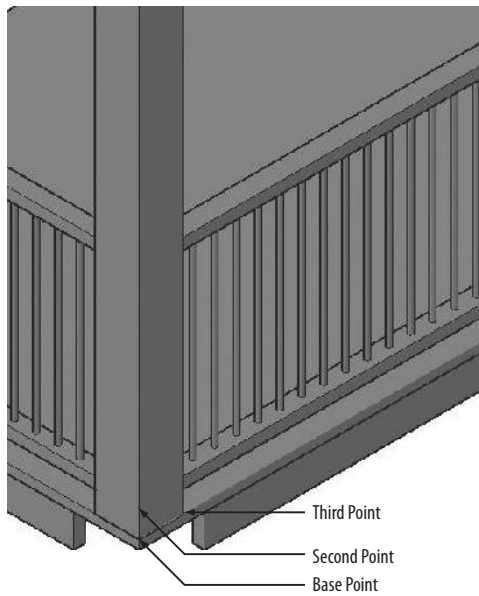

FIGURE 16.74: Defining the destination plane within the 3D model
12. Without exiting the 3DALIGN command, zoom in to the left deck column on the east side of your cabin, as shown in Figure 16.74.
13. To define the destination plane, select the base, second, and third points, as shown in Figure 16.74.